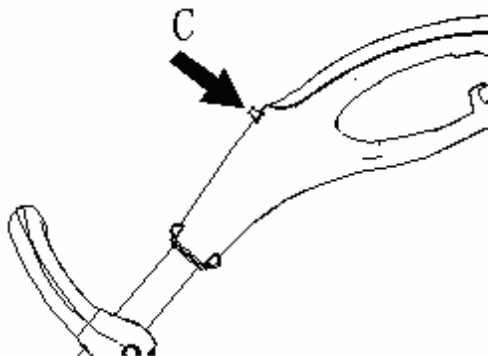
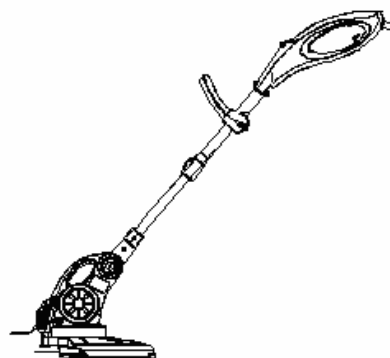
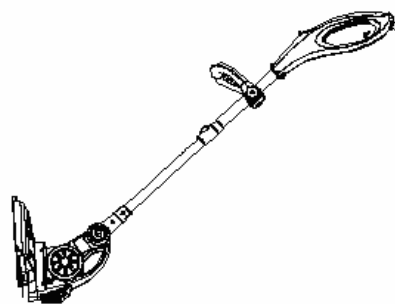

Fig. 8
Fig. 9 (normal trimmer mode)
Fig. 10 (edging mode)
2. Press the edging conversion button (C) (Fig. 8) and rotate the handle assembly until it locks in place. (Fig. 9 normal trimmer mode & Fig. 10 edging mode)